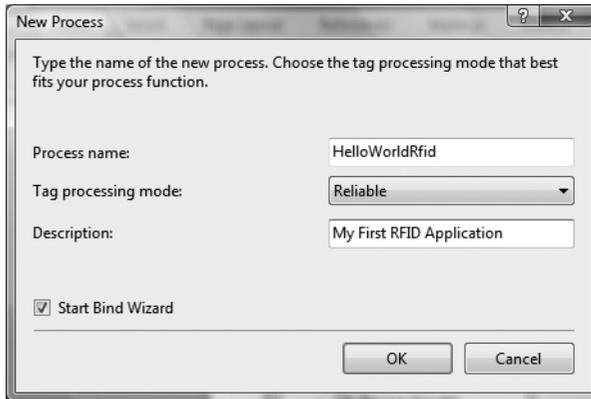

Figure 3-10. *Defining the process*
5. From the New Process dialog, change the process name to HelloWorldRfid, the tag-processing mode to Reliable, and the description to My First RFID Application, as shown in Figure 3-10. Click OK to start the Bind wizard and map devices and event handlers into this process.